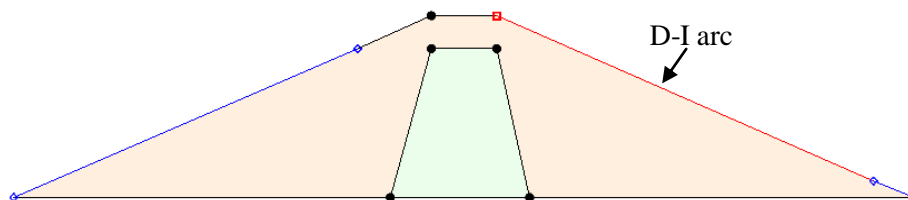

Figure 8 Exit-face boundary
7. Using the **Select Arcs**  tool, double-click on the D-I arc on the upper right (Figure 8) to bring up the *Attribute Table* dialog.
The arc will now be red, indicating it has an exit face boundary condition (Figure 8).